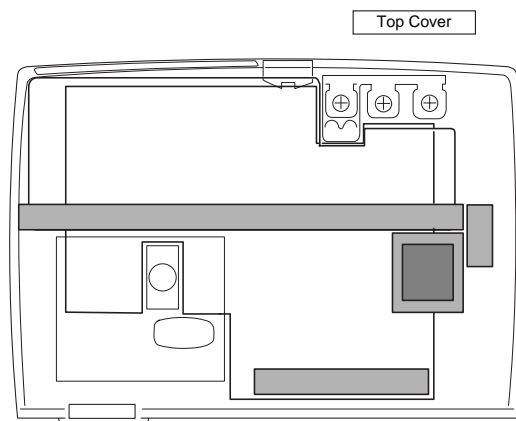

Fig. 4
- 4) Insulation barrier, urethane foam shield, etc. (See Fig. 4.)
As shown in Fig. 4, the front cabinet is lined with the barrier sheet.